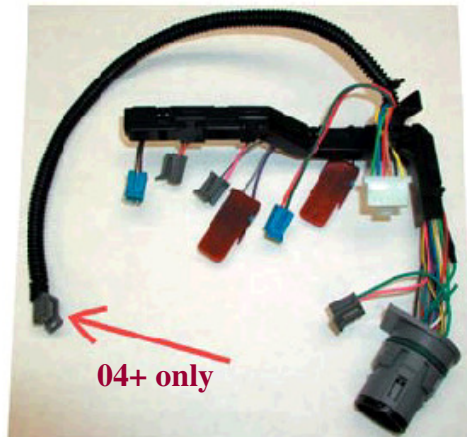

Figure 5: New wiring harness
- 8) Install the new supplied wiring harness. It will fit 2001 to 2005 transmissions. The pigtail wrapped with wire loom is only used on 2004 and later units. For earlier units the wire (marked in Figure 5) can be placed under the filter.